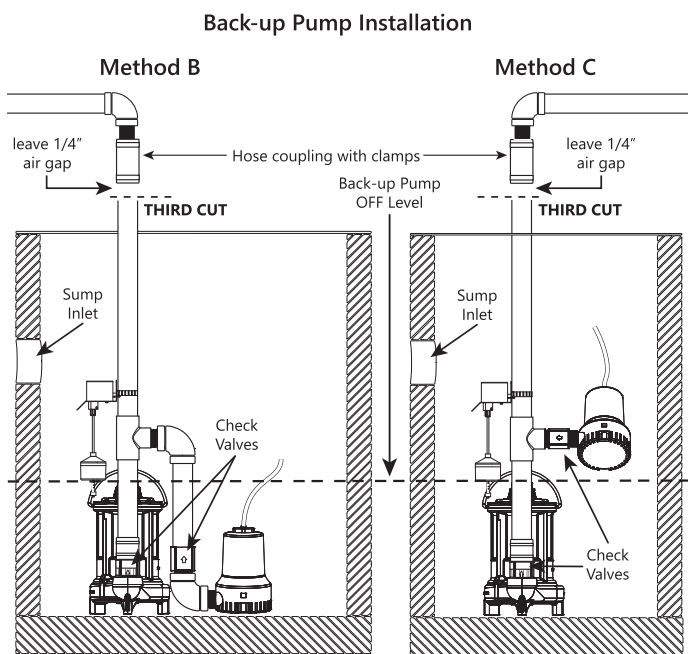

Figure 7. Remove Excess Discharge Pipe
13. Mount the back-up pump float switch assembly loosely to the discharge pipe per Figure 7. **Do not** fully tighten the clamp at this time as adjustments may be needed later.
3. Make the third cut as shown in Figure 7.